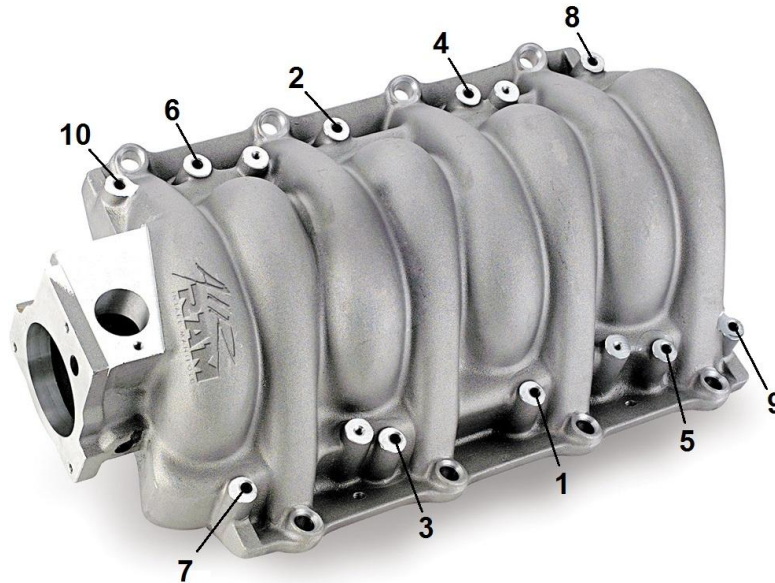

Figure 5
10. Carefully, slide the manifold back into position, making sure that the gaskets don't move. Using anti-seize compound, bolt down to 16 ft./lbs. using the supplied M6 x 1 – 90 SHCS and washers. Use the torque sequence shown in Figure 5.